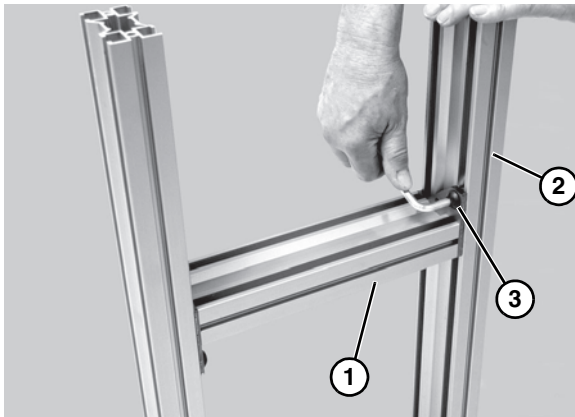

Figure 6
<p>Failure to secure screws (Figure 6, item 3) may cause conveyor sections to drop down causing severe injury.</p> <p>TIGHTEN SCREWS (Figure 6, item 3) AFTER ADJUSTMENT.</p>
- Upright stand and locate and space crossmember(s) (Figure 6, item 1) evenly along stand leg (Figure 6, item 2). Tighten crossmember button screws (Figure 6, item 3) to 150 in-lb (17 N-m).